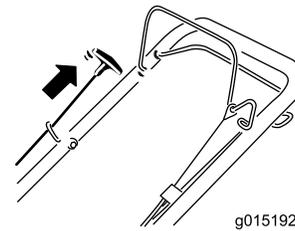

Figure 21
- Hold the blade control bar against the handle and pull the recoil starter (Figure 21).